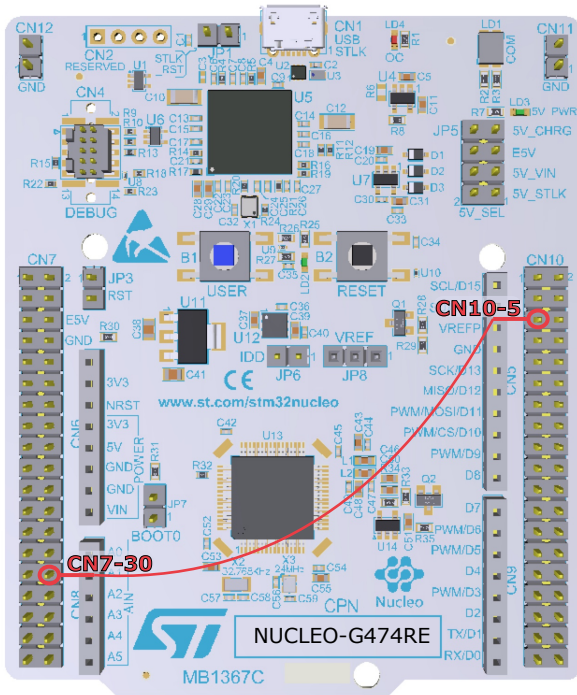

Figure 1: Pin configuration of the PWM to ADC Loopback
- 3 *Make the required hardware connections:* Connect the pins PB9 (CN10-5, PWM) to PA1 (CN7-30, Analog In) of an STM32 G474RE MCU using a jumper wire, as shown in Fig. 1.